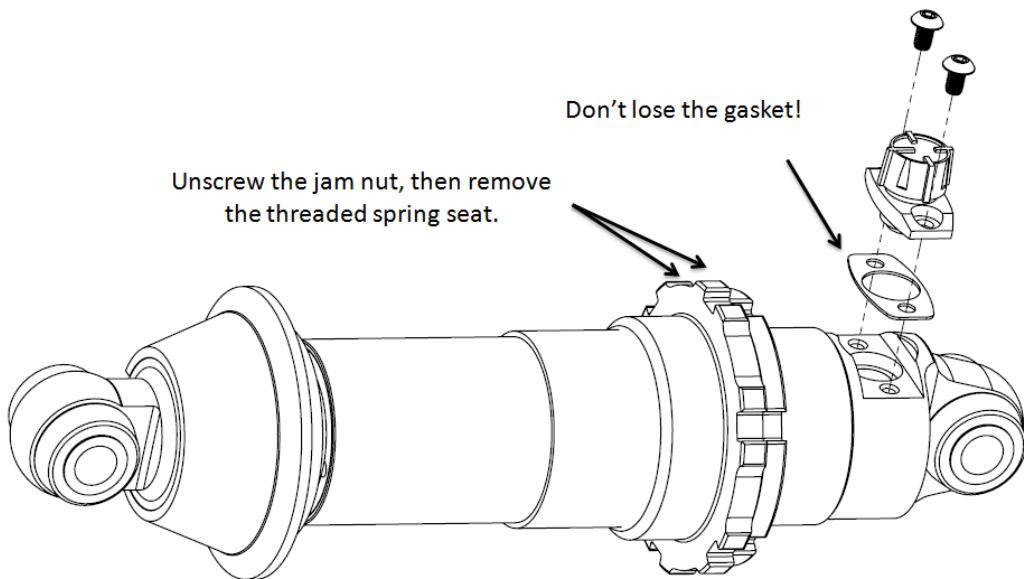

Figure 5. The shock adjustment knob must be removed for installation of the spring.
- 7) Now is a good time to install the coil springs over the shocks. To do so, the knob on the shock must be removed as shown in Figure 5. Unscrew the spring seat and the jam nut, slide on the spring, and reassemble. Be sure not to lose the gasket behind the knob.